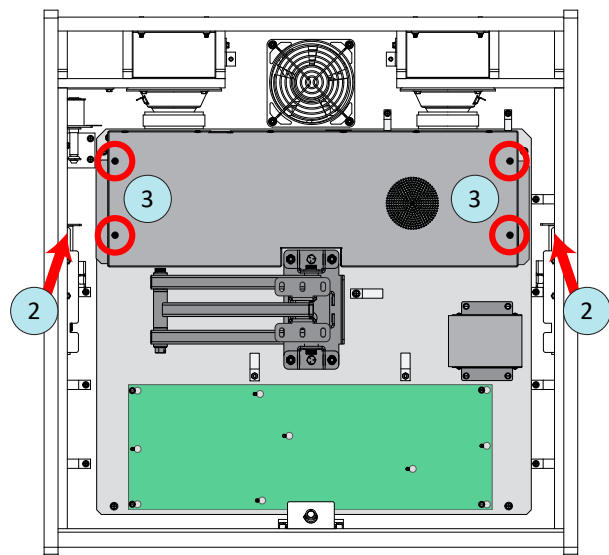

Figure E12. Removing PCB chassis lid.
- 1) With the game off, open the coin door and locate the keys to the backbox lock (hanging on a hook, alongside one of the coin mechanisms). Unlock the backbox lock (item 2 on pg C-45), slide the backglass upward and remove it, bottom edge first. Carefully set it aside.
- 2) Release the 27" LCD monitor, by lifting the two latches, top left & right (red arrows, figure E12), while carefully pulling the screen straight out of the backbox. Extend the screen outward, then swing it over to either side of the backbox.